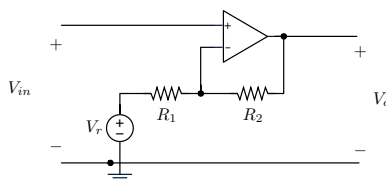

Figure 2: Circuit for Question A.3.b).
A.3.b) Consider the amplifier circuit in Fig. 2, where  $R_1 = 100\Omega$ ,  $R_2 = 200\Omega$ , and  $V_r = 2V$ . Assuming an ideal OpAmp and sufficiently large supply voltages and using Ohm's and Kirchoff's laws, derive the expression for the output voltage  $V_o$  as a function of  $V_{in}$ . (4 pt)